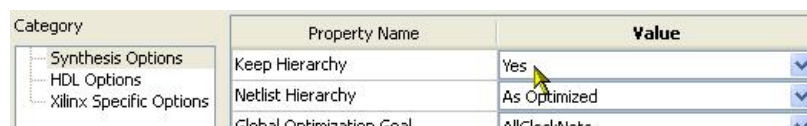

Figure 8-1: Selecting Keep Hierarchy
2. Set the Keep Hierarchy option to **Yes** as shown in Figure 8-1.